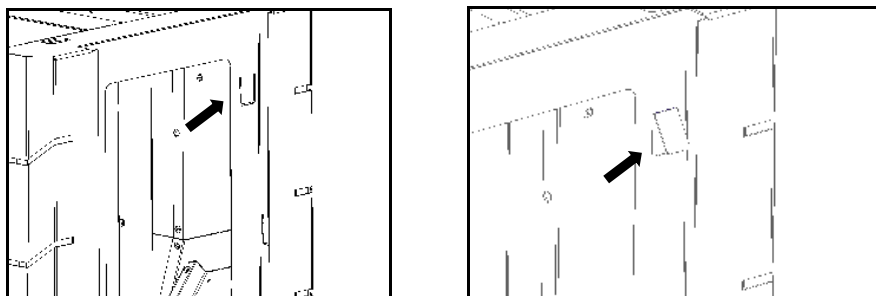

Figure 25 - Ceramics and glass supports
g) To place Kili's glass or ceramic front panels, before performing the previous procedure, the metal side tabs in the side structure (Figure 25) must be bent inwards to secure the parts onto the structure (there are 6 metal side tabs to bend).